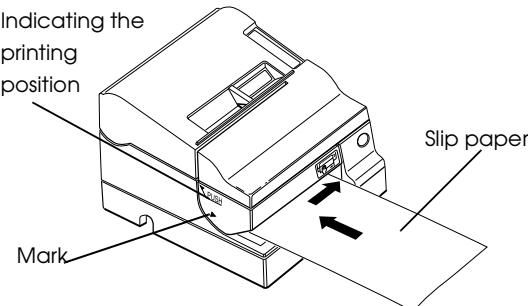

Figure 3-9. Inserting Slip Paper
2. When the SLIP indicator flashes, insert the slip paper into the slip paper inlet using the right side edge of the inlet. Make sure you insert the slip paper into the inlet as far as it will go (i.e. insert the slip paper until the mark on the left side of the printer.) See Figure 3-9.